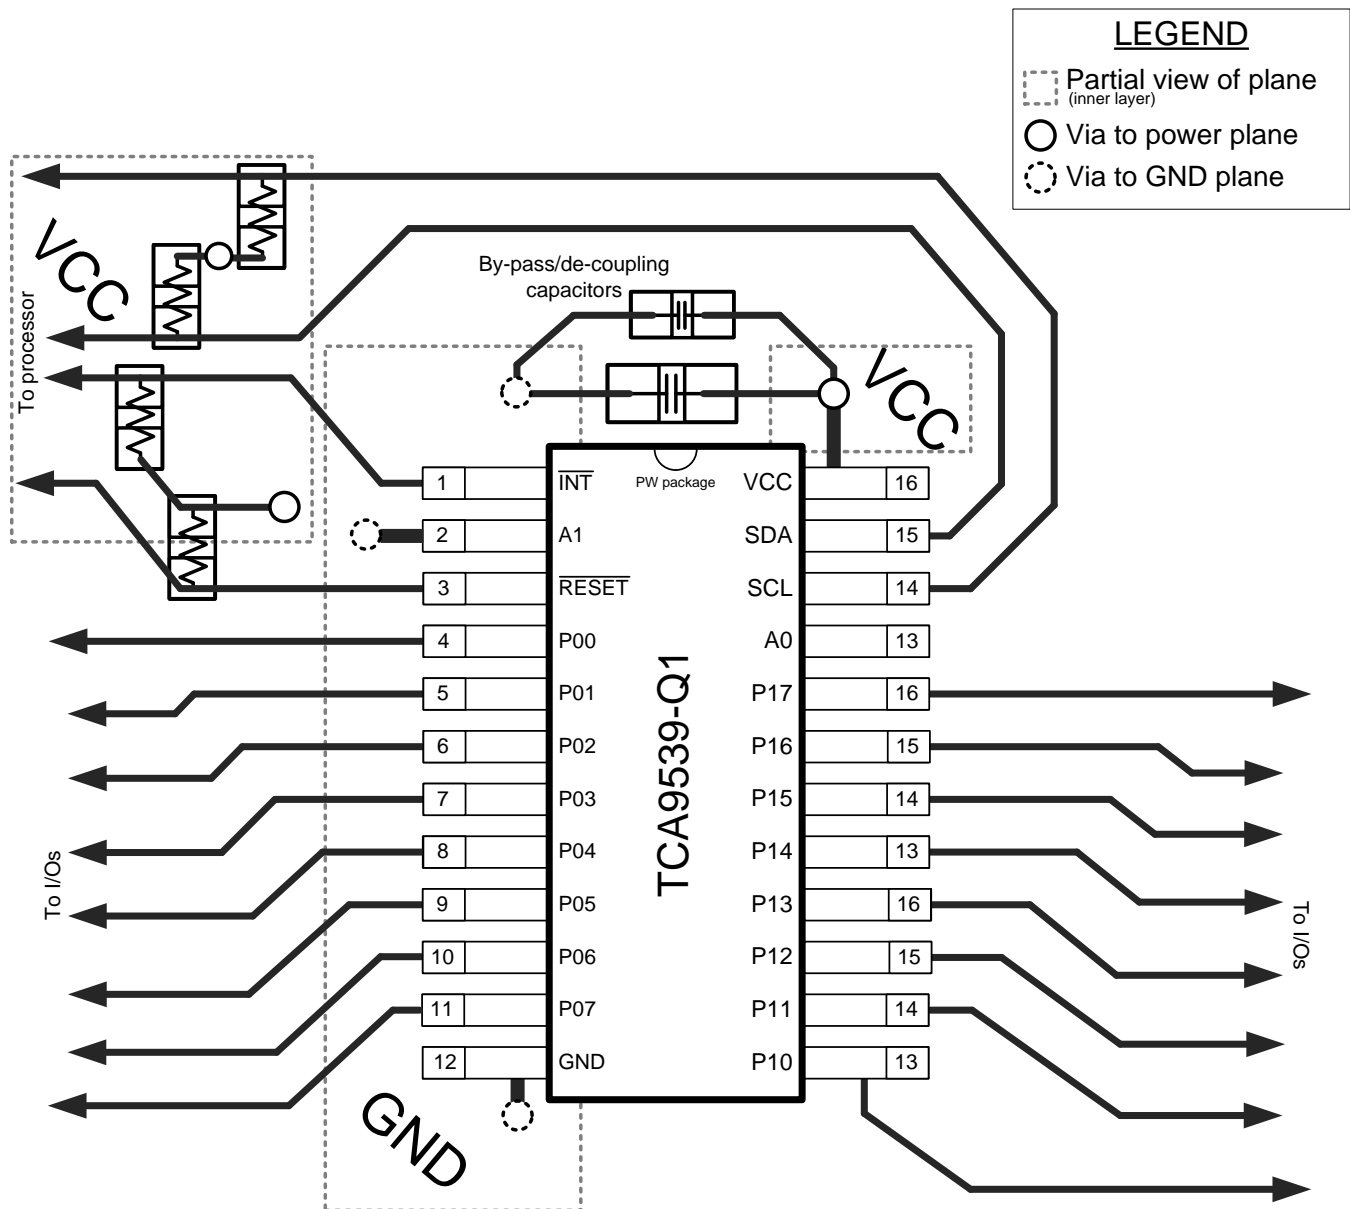

Figure 39. TCA9539-Q1 Layout
In all PCB layouts, it is a best practice to avoid right angles in signal traces, to fan out signal traces away from each other upon leaving the vicinity of an integrated circuit (IC), and to use thicker trace widths to carry higher amounts of current that commonly pass through power and ground traces. By-pass and de-coupling capacitors are commonly used to control the voltage on the V_{CC} pin, using a larger capacitor to provide additional power in the event of a short power supply glitch and a smaller capacitor to filter out high-frequency ripple. These capacitors must be placed as close to the TCA9539-Q1 as possible. These best practices are shown in Figure 39.
For the layout example provided in Figure 39, it would be possible to fabricate a PCB with only 2 layers by using the top layer for signal routing and the bottom layer as a split plane for power (V_{CC}) and ground (GND). However, a 4 layer board is preferable for boards with higher density signal routing. On a 4 layer PCB, it is common to route signals on the top and bottom layer, dedicate one internal layer to a ground plane, and dedicate the other internal layer to a power plane. In a board layout using planes or split planes for power and ground, vias are placed directly next to the surface mount component pad which must attach to V_{CC} or GND and the via is connected electrically to the internal layer or the other side of the board. Vias are also used when a signal trace needs to be routed to the opposite side of the board, but this technique is not demonstrated in Figure 39.